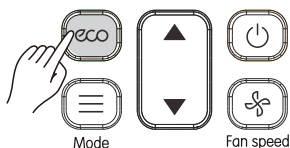

Figure 3.15
1) Press  (see Figure 3.15) to send the ECO signal to the indoor unit. The *eco* icon is displayed;